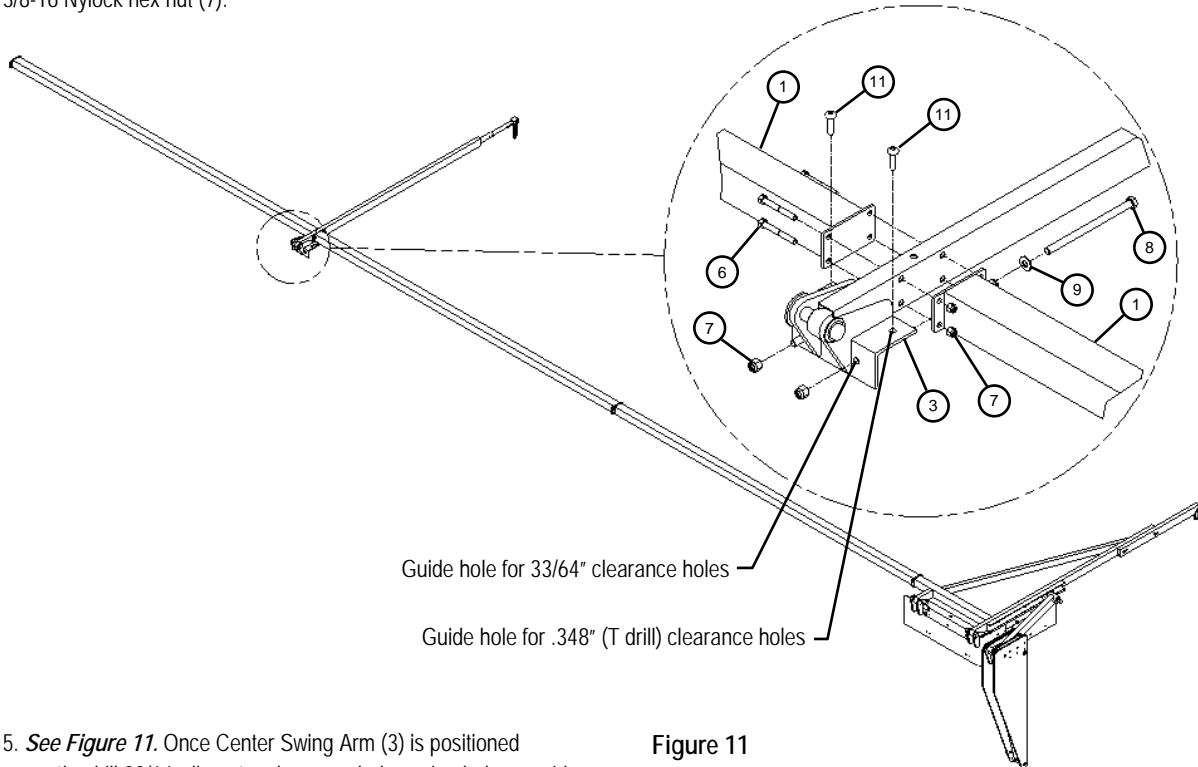

Figure 11
3. See Figure 11. Place Center Swing Arm (3) on trailer. Position Center Swing Arm (3) adjacent to second Torque Tube (1).
4. See Figure 11. Place third Torque Tube (1) on trailer, supporting both ends, and position adjacent to Center Swing Arm (3). Bolt second Torque Tube (1), Center Swing Arm, and third Torque Tube (1) with 3/8-16 x 3" hex bolt (6) and 3/8-16 Nylock hex nut (7).
5. See Figure 11. Once Center Swing Arm (3) is positioned correctly, drill 33/64" diameter clearance holes using holes on side of center hinge as a guide.
6. Figure 11. Bolt Center Swing Arm (3) to trailer with 1/2-13 x 8" hex bolt (8), 1/2 flat washer (9), and 1/2-13 hex nut (10). Center Swing Arm (3) will be bolted 2 places.
7. See Figure 11. Drill two .348" (T drill) pilot holes for 3/8" type F bolts using holes on top of center hinge as a guide.
8. Figure 11. Bolt center hinge to trailer with 3/8-16 x 1 1/2" Torx type F bolt (11). Center hinge will be bolted 2 places.